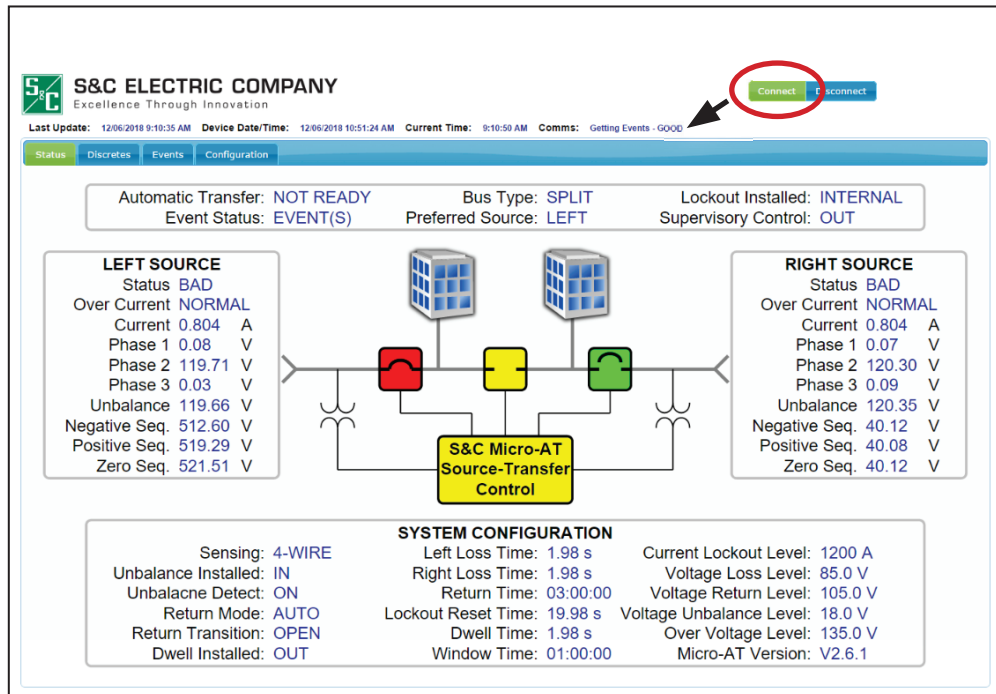

Figure 12. Click on the **Connect** button to connect to the Micro-AT control and verify the connection is good through the **Comms** field.
STEP 7. Click the **Connect** button located at the top-right side of the screen. Verify the message of “GOOD” in the **Comms** field appears. See Figure 12.